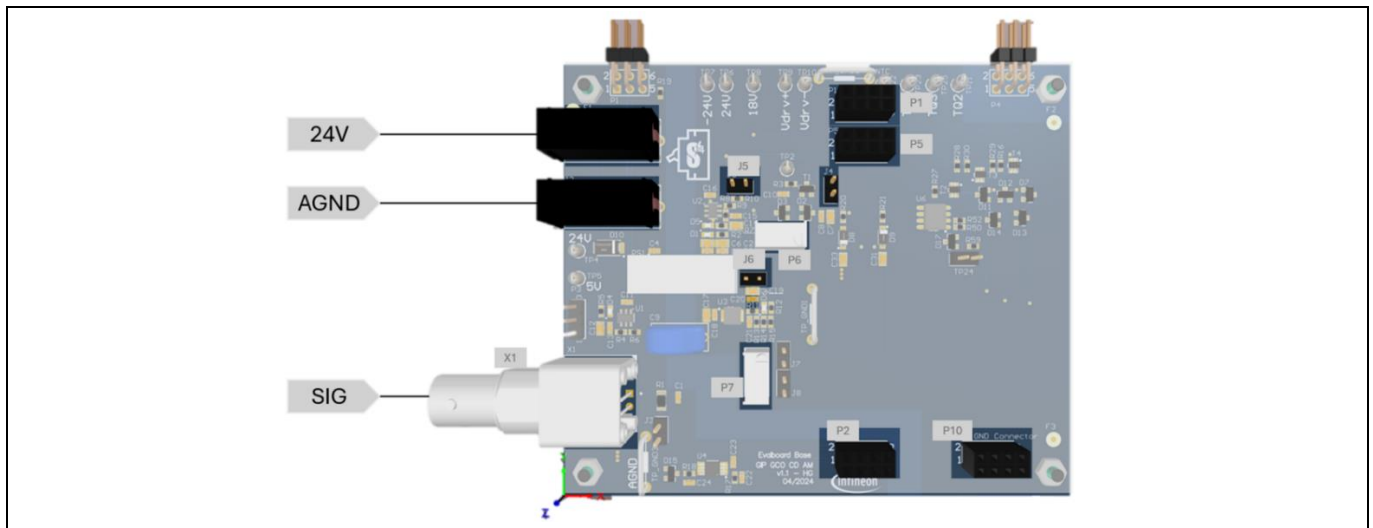

Figure 3 Baseboard PCB
4. Supply the baseboard with 24 V, where the voltage is between the board connectors named "24V" and "AGND" in Figure 3